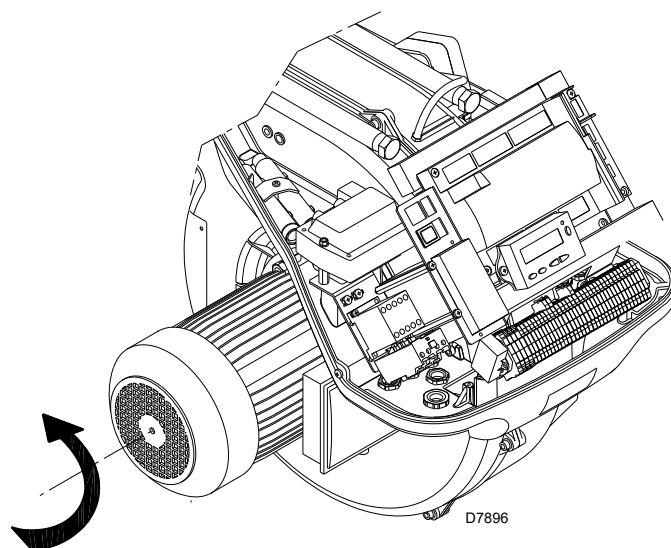

Fig. 31
Close the thermostats/pressure switches and turn the switch of Fig. 31 to position "1".
As soon as the burner starts up, go in front of the cooling fan of the fan motor and check it is rotating anticlockwise. See Fig. 31.
- place the switch of Fig. 31 in position “0” and wait for the control box to carry out the switch-off phase;
The burner is in the heat request waiting mode, or the selector “0-1” (Fig. 31 at page 33) is in the “0” position.